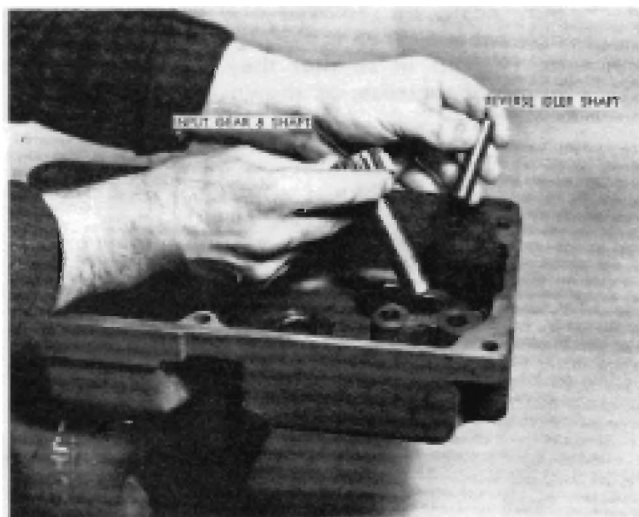

FIGURE 13
1. Install the input shaft and gear, and reverse idler shaft, as shown in Figure 13.